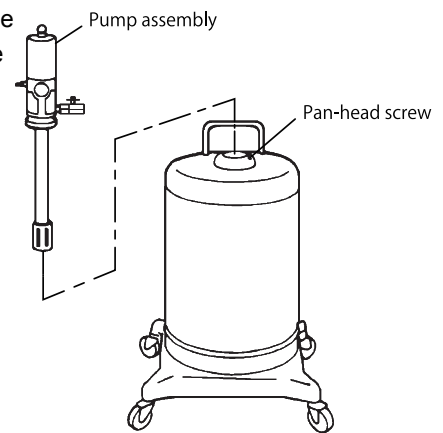

Fig. 9
- 2) Unscrew the pan-head screw of the body supporter that fixes the pump. Pull out the pump from above. (Fig. 9)